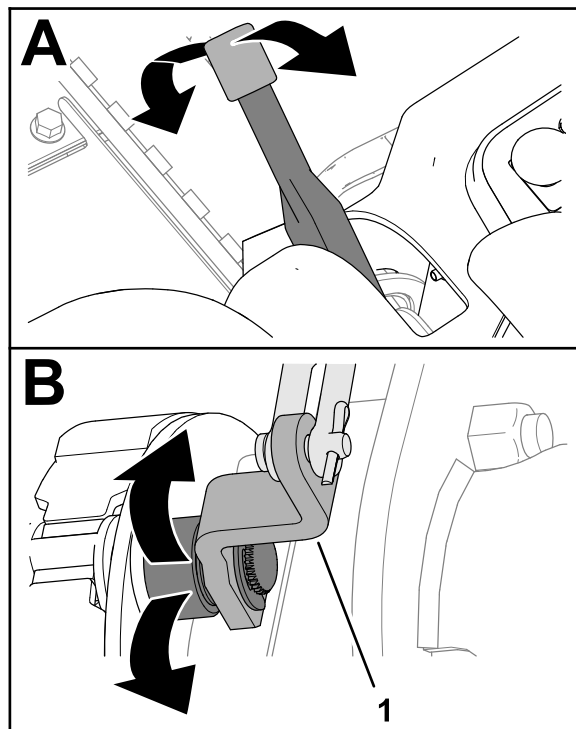

Figure 71
2. Move the parking brake lever up and down to check that the lever for the brake-cam lever moves freely (Figure 71).